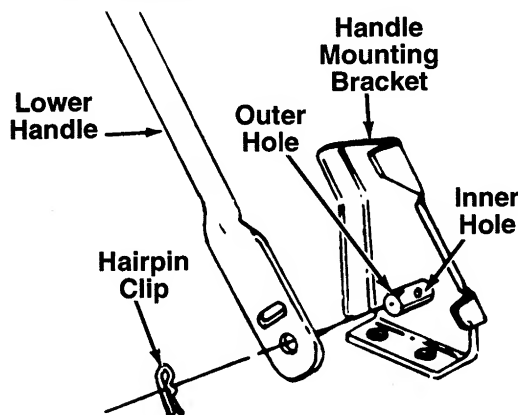

FIGURE 1.
2. Using a pair of pliers, squeeze one leg of the lower handle against the handle mounting bracket. Insert the hairpin clip into the inner hole in the weld pin. See figure 1. Repeat on other side.